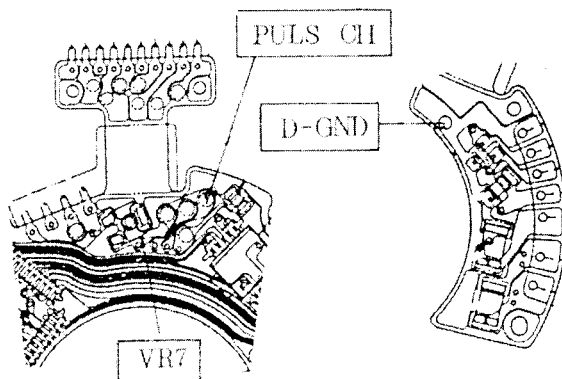

Fig. 2
2. Temporarily attach leads to the pads marked [PULS CH] and [D-GND] in figure 2.